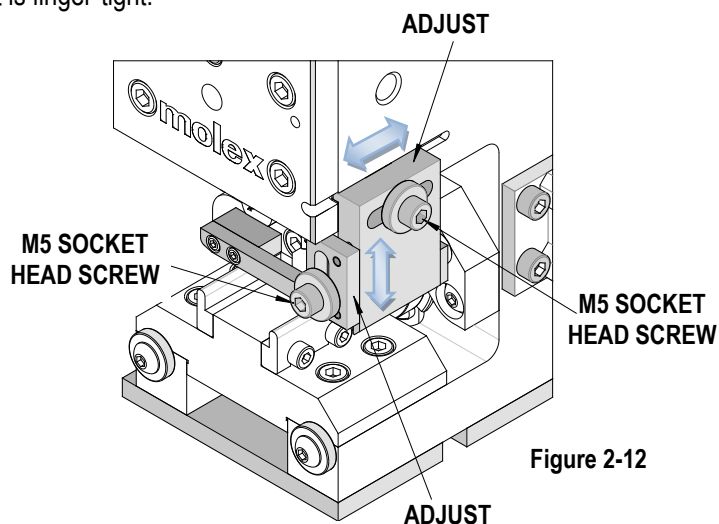

Figure 2-12
3. To adjust the stripper in and out, use a 4mm hex wrench to loosen the M5 socket head screw on the side of the stripper. Move the stripper toward the punches, but not too close or it could interfere with the ram stroke. See Figure 2-12. Tighten the M5 socket head screw when adjustment is complete.